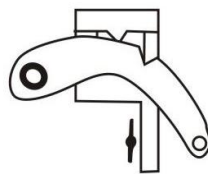

Fig.2.
Taking all necessary precautions, take the load with the jack (i.e., jack the load up slightly), and ensuring the handle is in the FULLY UPRIGHT position, trip the Reversing Latch (20) so that it is in the "Down" position, i.e., the indentation on the Latch, becomes disengaged from the notch on the reversing Switch (see fig.2). Keeping a firm grip on the handle, pump it as you would for 'raising a load.